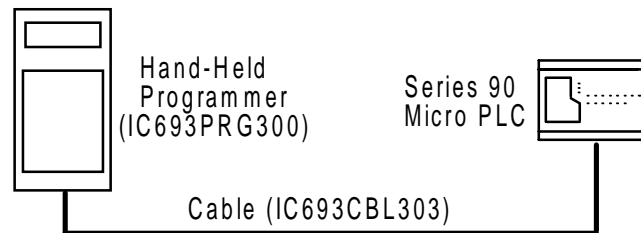

Figure 3-6. Hand-Held Programmer Cable Connection to a Micro PLC
- Attach the connector on the other end of the cable to the RS-422 connector on the Micro PLC (Port 1 on the 28-point Micro PLC). These connections are shown in Figure 3-6.